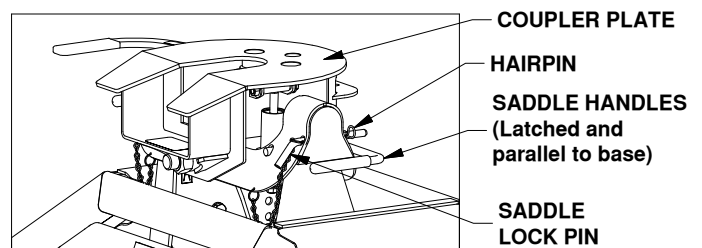

Figure F1: Coupler installed on base.
1. **Place coupler.** Lubricate the polyurethane bushings on top of the pivot arms with high grade lithium grease (available at your local hardware/automotive store). Place the coupler over the pivot arms. (The saddle handles should be parallel with the base in the latched position.) Place the saddle lock pins through the saddle, then insert the hairpins through the holes in the end of the saddle lock pins to secure the coupler to the pivot arms, see Figure F1.